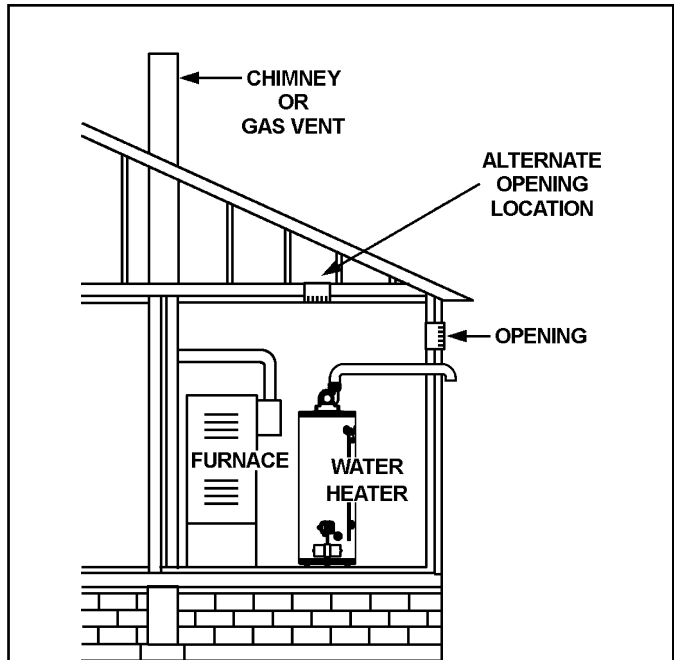

Figure 21
- Alternatively a single permanent opening may be used when communicating directly with the outdoors, or with spaces that freely communicate with the outdoors. The opening shall have a minimum free area of 1 square inch per 3,000 Btu/hr of total input rating of all equipment in enclosure (see Figure 21).